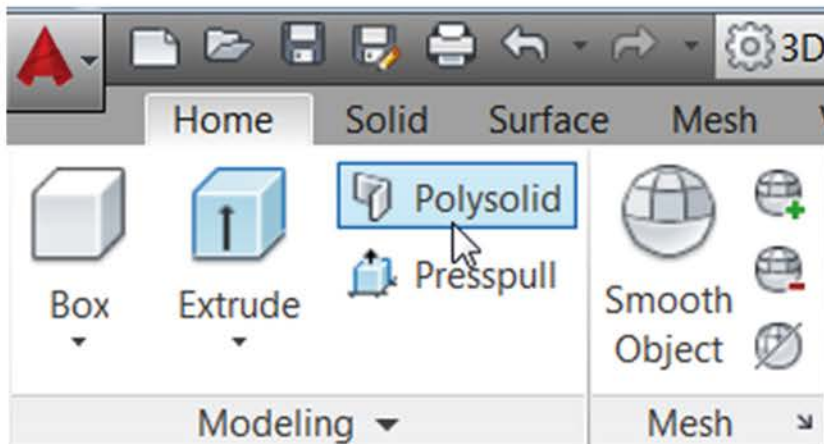

Fig. 9.7 The Polysolid tool icon in the Home/Create panel
4. Call the **Polysolid** tool from the **Home/Create** panel (Fig. 9.7).